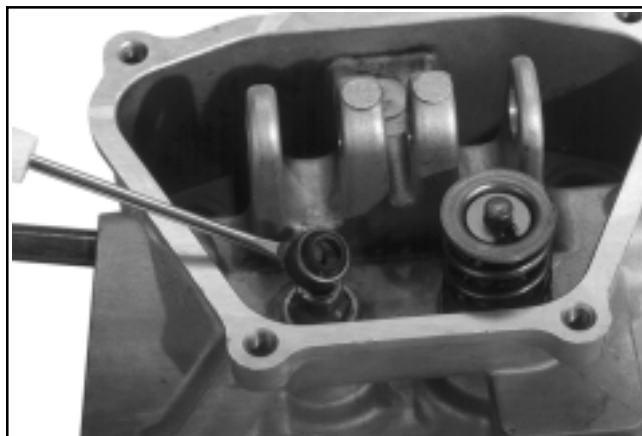

Figure 9-44. Removing Intake Valve Stem Seal.
4. Remove and replace the intake valve stem seal whenever the cylinder head is serviced or disassembled. See Figure 9-44.